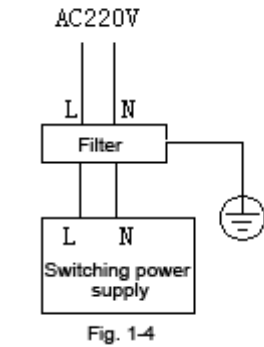

Fig. 1-4
- (1) CNC must be kept away from the equipment with interference (e.g. inverter, AC contactor, electrostatic generator, high voltage generator, and sub-unit of power lines), and the switching power supply should be connected to a filter to improve the anti-interference of CNC (as in Fig.1-4);
(2) To supply power to the system through isolation transformer, the machine tool must be grounded, CNC and drive must be connected to separate earth wire.